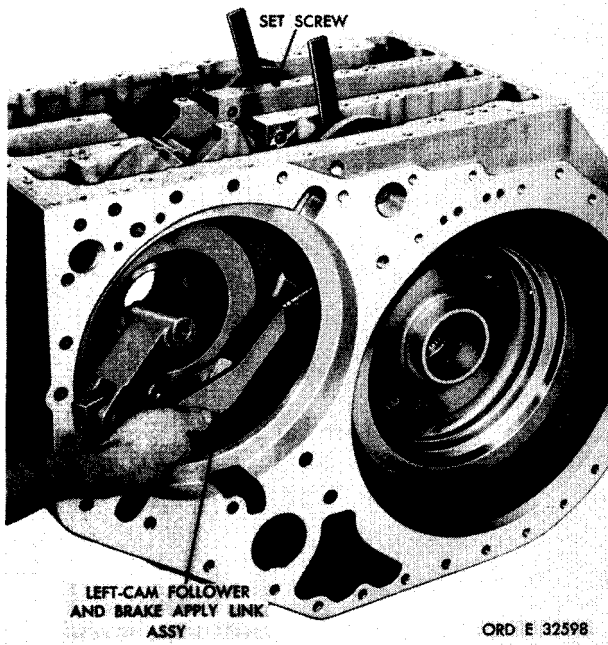

Figure 179. Removing (or installing) left-cam follower and brake apply link assembly
m. Remove the left-cam follower and brake apply link assembly (fig. 179).
s. Remove set screw (fig. 179).